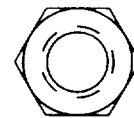

Fig. 22 - Hex Nut for Leveling Foot
30. Put a hex nut on each of the *leveling feet*. (Figure 22)